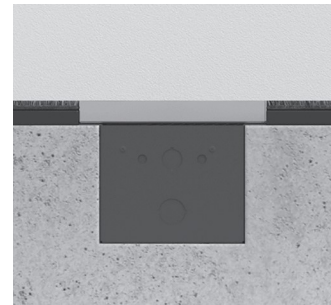

Figure 12C: Flush Grille
- Repeat this process until level. **Note:** the grille must be flush with floor surface. See Figure 12C (Flush Grille) or 12D Surface Grille).